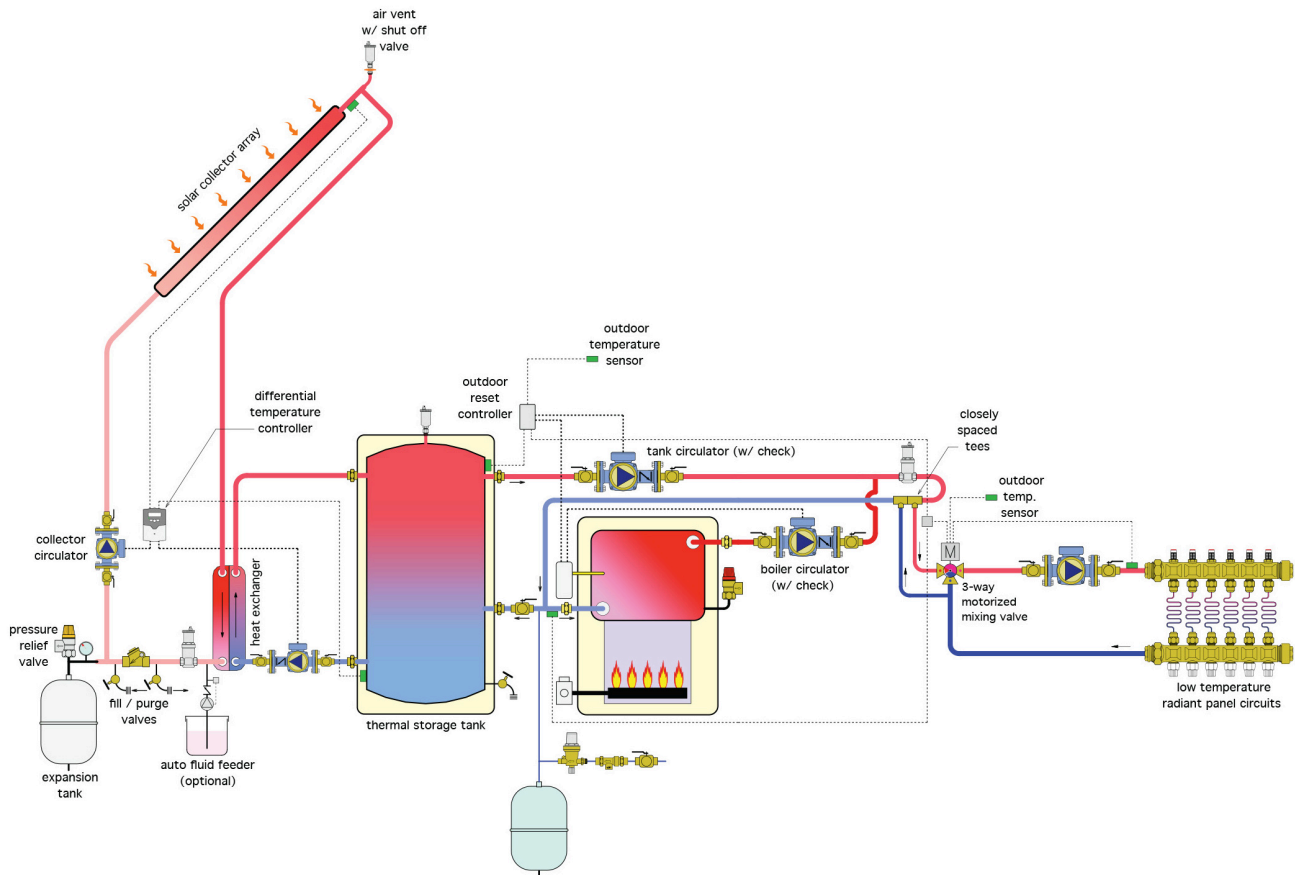

Figure 1 Solar supplementing a radiant floor system
- Figure 1 A basic closed active solar thermal system © Caleffi Hydronic Solutions (<https://www.caleffi.com/usa/en-us>). Used with permission.
Hydronic-based solar subsystems can supply heat to either forced air or hydronic space heating systems. Ideally, radiant floor systems are the most logical recipients of solar energy. They typically operate using water temperatures of 100 – 130°F (38 – 54°C). If tube spacing, under-slab insulation and floor covering considerations are carefully planned, those water temperatures can be further lowered, thereby increasing the effectiveness of a solar energy supply. Figure 1 below illustrates an antifreeze-based solar subsystems supplying a radiant panel distribution system that is supplied by a gas-fired boiler.